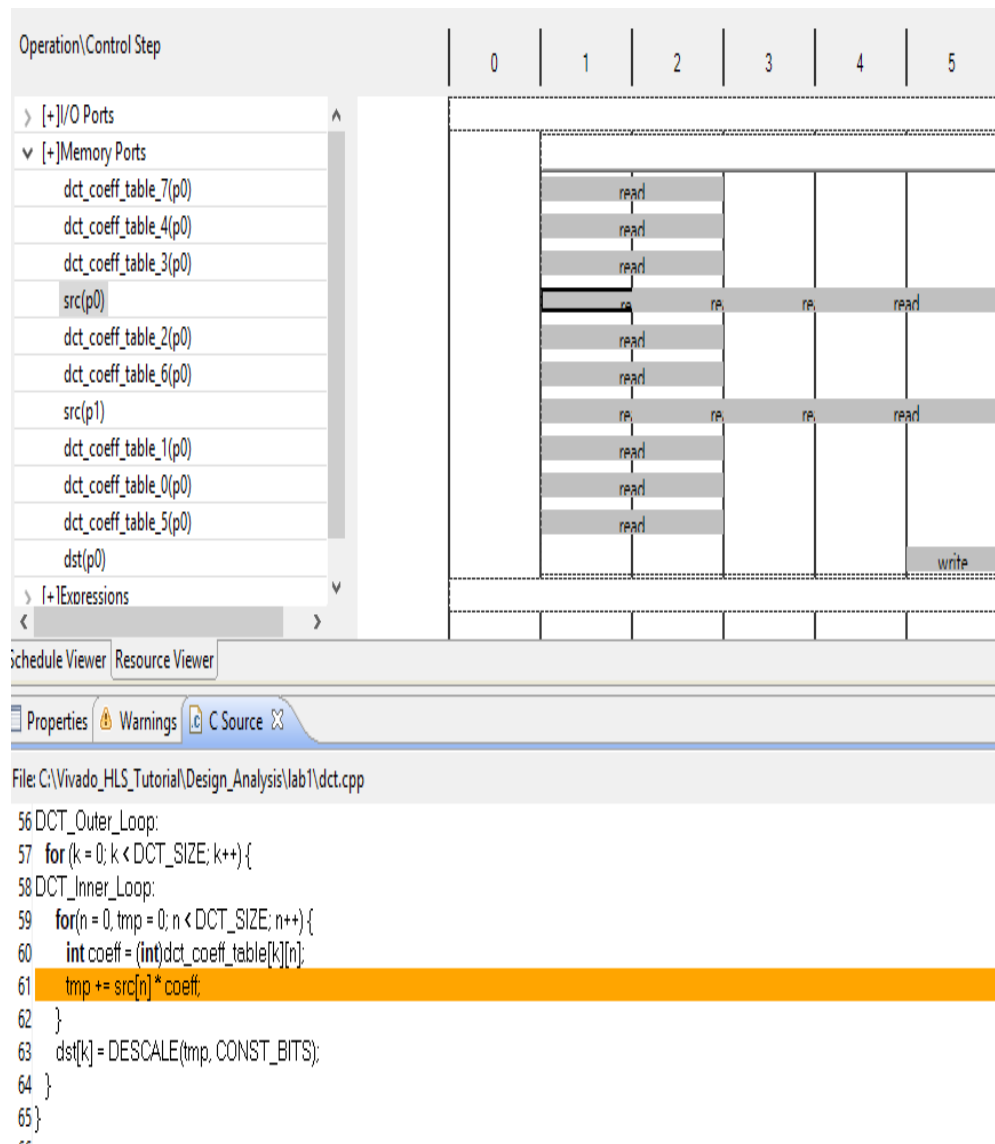

Figure 6-24: Memory Resource SRC and Source Code
17. Right-click and select **Goto Source** to see the view shown in Figure 6-24.
Figure 6-24 shows this read on the `src` variable is from the read operation inside loop `DCT_Inner_Loop`. This loop was automatically unrolled when `DCT_Outer_Loop` was pipelined and all operations in this loop can occur in parallel (if data dependencies allow).
The eight reads are being forced to occur over multiple cycles because the array `src` is implemented as a block RAM in the RTL and a block RAM can only allow two reads (maximum) in any one clock cycle. In Figure 6-24, the read operations take 2 clocks cycles: a cycle to generate the address for the block RAM and a cycle to read the data. Only the launch (address generation cycle) is shown because it overlaps with the operation in the next clock cycle.